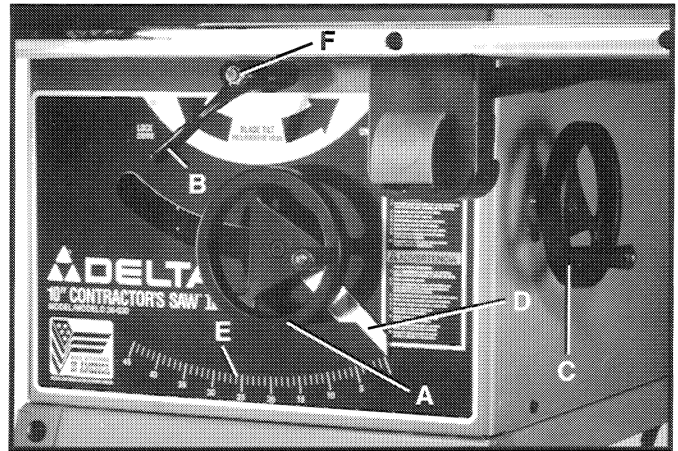

Fig. 65
Turning the blade raising and lowering handwheel (A) Fig. 65, clockwise will raise the blade. Turning the handwheel counterclockwise will lower the blade. Maximum depth of cut with the blade at its maximum height and 90 degrees to the table is 3-1/8".
To tilt the saw blade for bevel cutting, loosen lock lever (B) Fig. 65, and turn blade tilting handwheel (C). When the desired blade angle is obtained, tighten lock lever (B). The angle of blade tilt is easily obtained using the pointer (D) and scale (E) located on front of the saw cabinet. **NOTE:** Lock lever (B) can be repositioned if it does not lock sufficiently when tightened by removing nut (F) and handle (B). Reposition handle (B) on the nut located underneath the hub of the handle and replace nut (F).